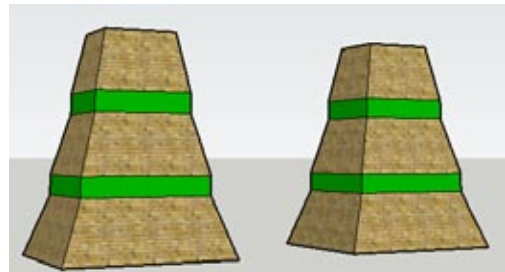

Figure 8-22
4. If you want to replace all of the stone faces with another material, first pick the new material. Then press and hold the Shift key and click any stone face. All of the stone faces in the model are replaced with the new material (Figure 8-22).